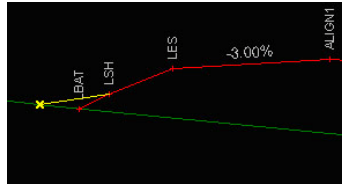

Figure 18-54. Left Side Slope Point Selected and Moved with the Pointer
- Select an existing side slope point on the design surface with the mouse (Figure 18-54 on page 18-58).